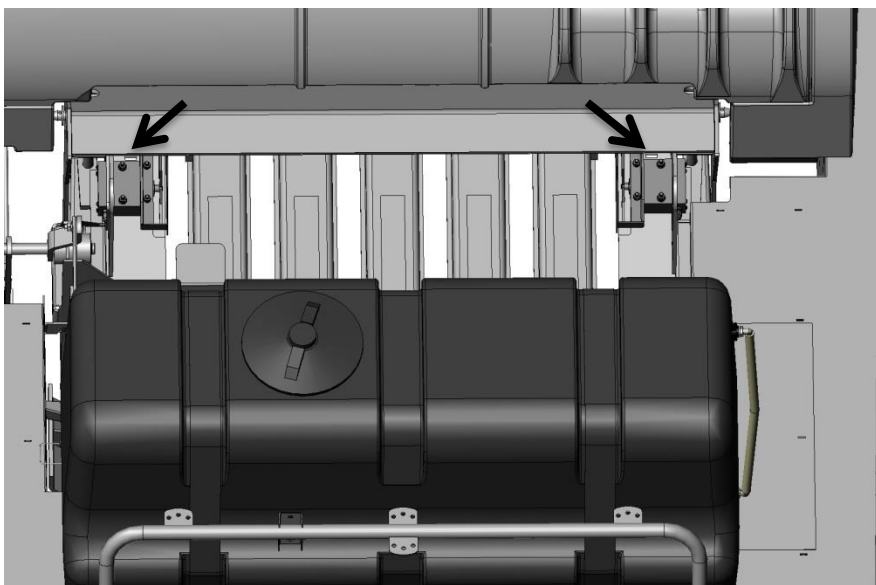

Figure 9
2. Directly behind the knotters, locate the four predrilled holes per side shown at the arrows. This location is also beneath the lift points on top of the baler. Figure 9